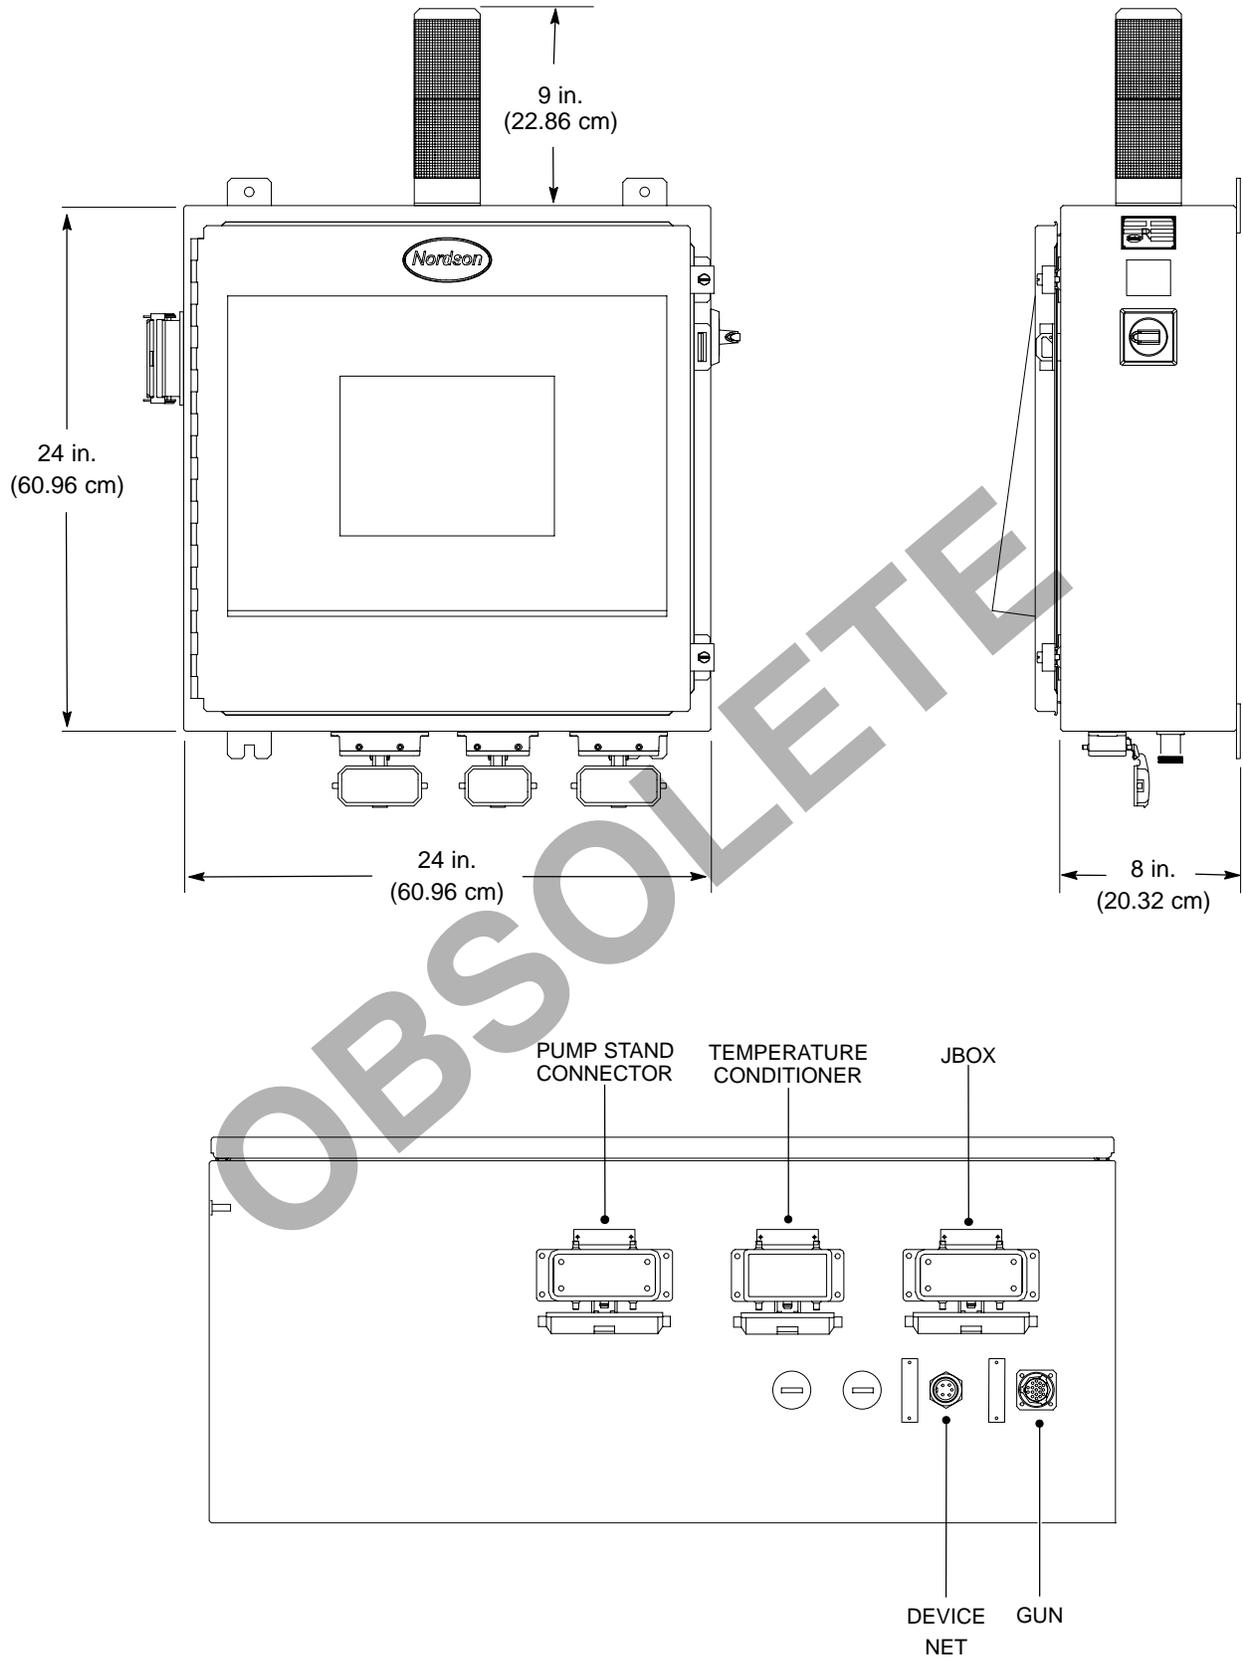

Figure 2 Installation
2. See Figure 2 for mounting dimensions.
Figure 2 illustrates the location of the cable connections for the PCI controller. See the System Interconnect drawing provided with your system documentation for specific cable routings.